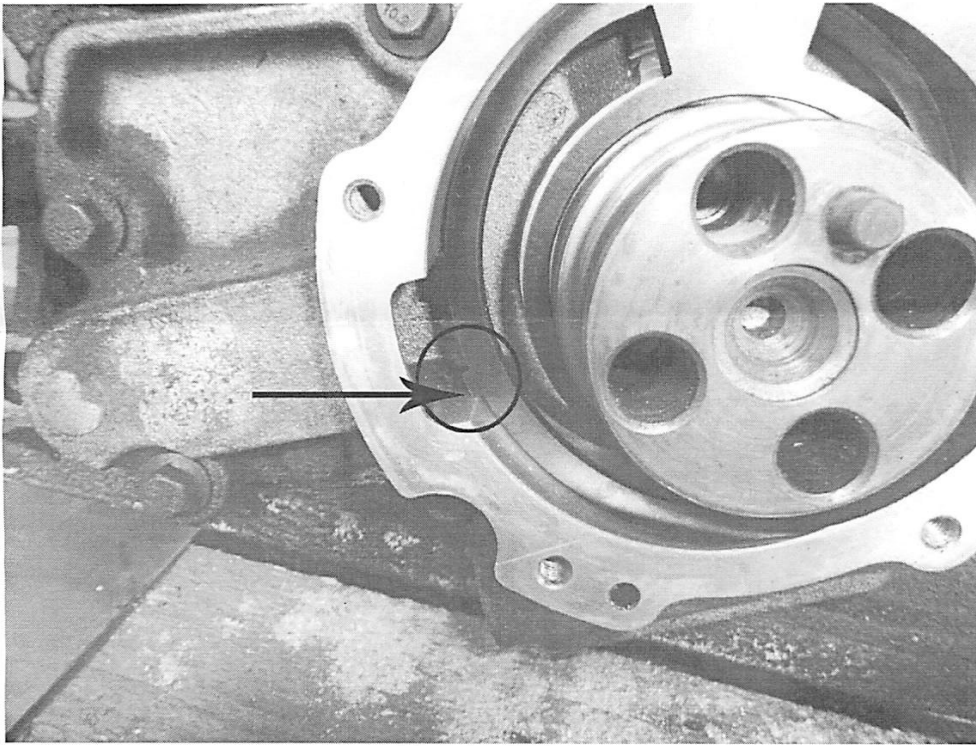

Figure: 3
- 3) Orient Wear Plate as shown in **Fig.3** making sure the lower tab is flush with the groove circled.